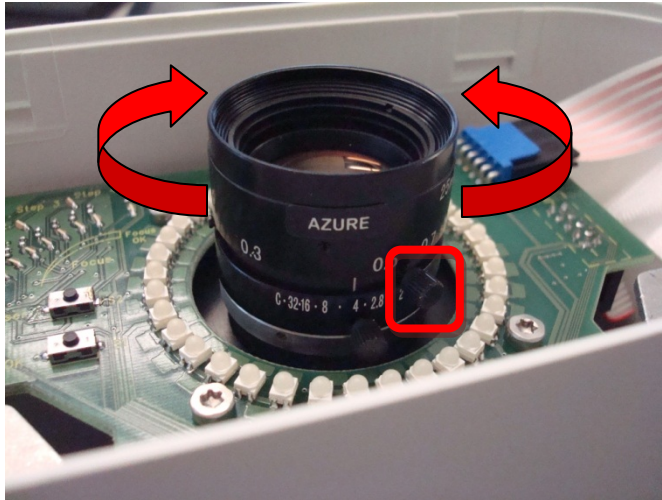

Figure 10: Fix the single camera position
- 4. Fix the camera position to the proper alignment by tightening the two side screws and the bottom screw – refer to Figure 10.